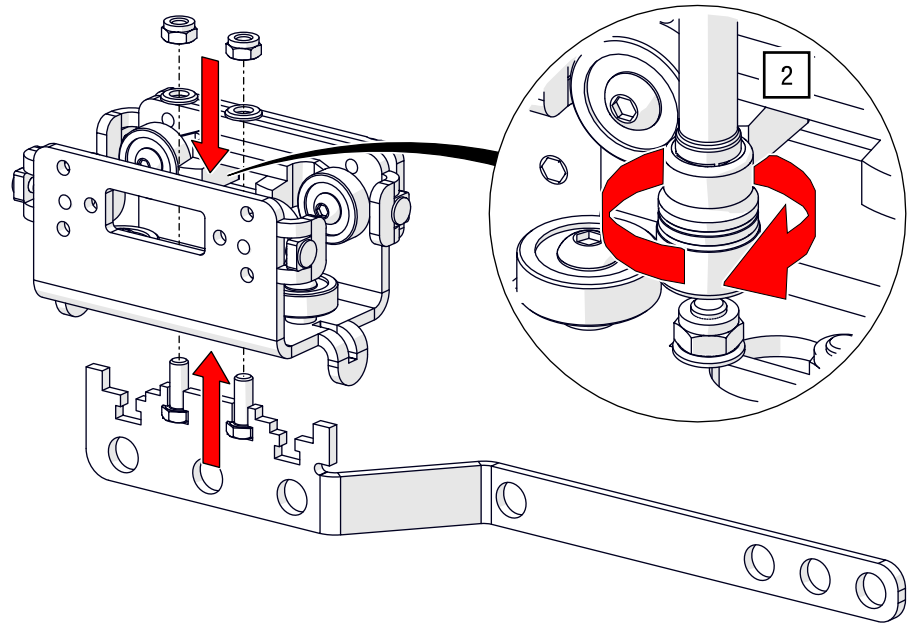

Fig. 65: Overlap arm – Screw on overlap arm
2. Screw the overlap arm set to the designated mounting points on the master runner (see Fig. 65).